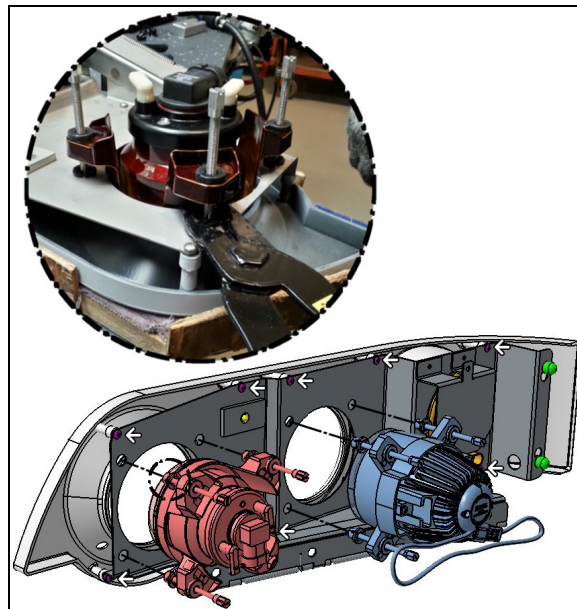
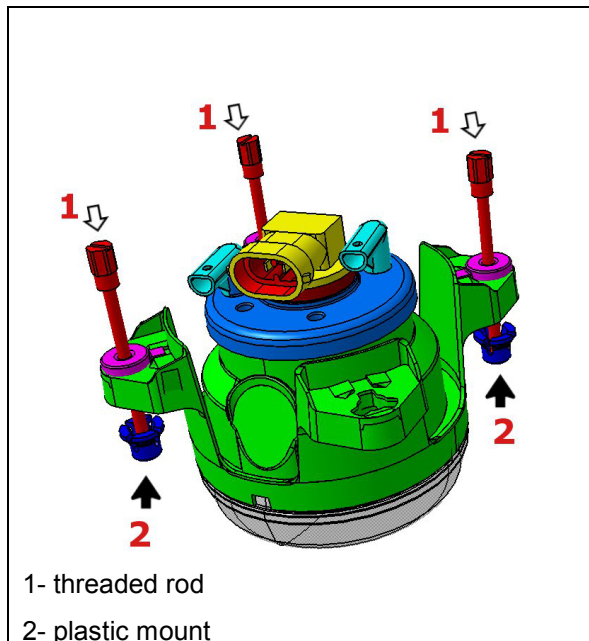

FIGURE 71: UNFASTEN PLASTIC MOUNTS
FIGURE 72: HEADLAMP MODULE
4. Unfasten three plastic mounts (see Figure 71 and item 2 on Figure 72) from the headlamp module support and discard the damaged headlamp module.
5. Install three new threaded rods (item 1, Figure 72) on new headlamp module.
7. Snap new plastic mount on threaded rods (3x) (Figure 72).